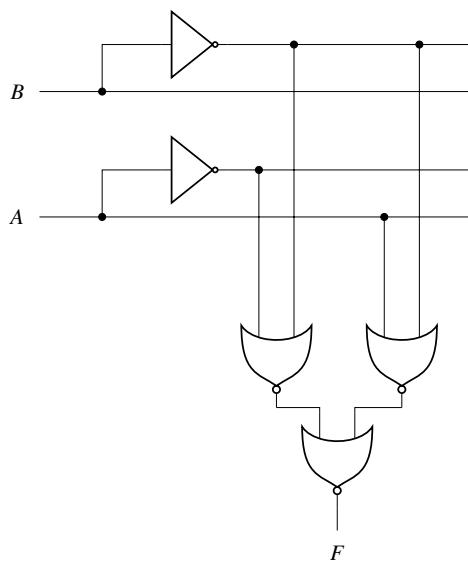

Fig. 3.25
43. The logic block shown in Fig. 3.25 has an output F given by _____. (GATE EC 2020)